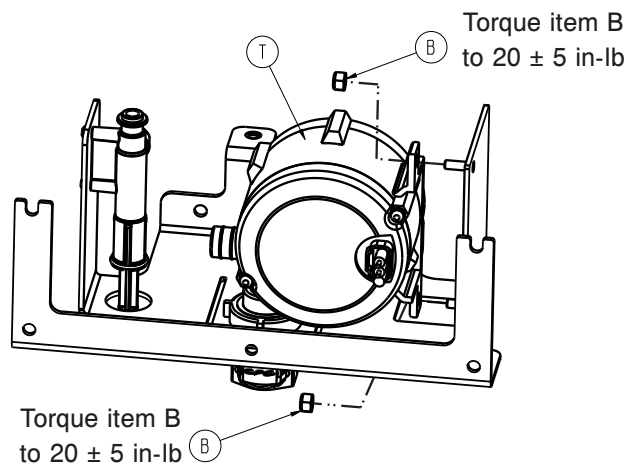

Figure 21 – Screws that secure the fluid pump to the fluid bracket
7. Pull up and rotate the fluid assembly bracket up to gain access to the fluid pump (T).
9. Using a 3/8" combination wrench, remove the two nuts (B) that secure the fluid pump to the fluid bracket (Figure 21). Save the nuts.